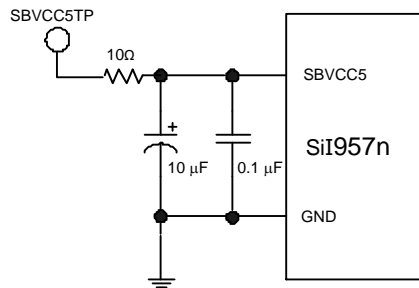

Figure 3.1. Test Point SBVCC5TP for SBVCC5 Measurement
1. SBVCC5 voltage is measured at SBVCC5TP as shown in Figure 3.1.